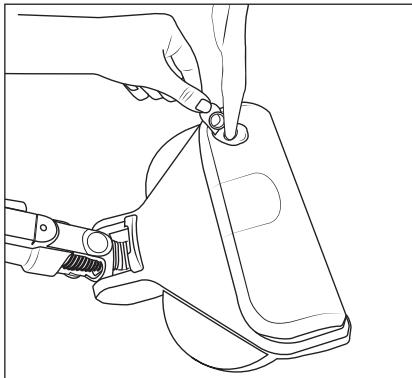

Fig. 16
- 1) Grip the closing tab 33 of the fresh water tank 32 with your fingers and pull it upwards out of the filler opening of the fresh water tank 32 (see Fig. 16).
- 2) Fill the fresh water tank 32 with tap water or distilled water (see Fig. 16).